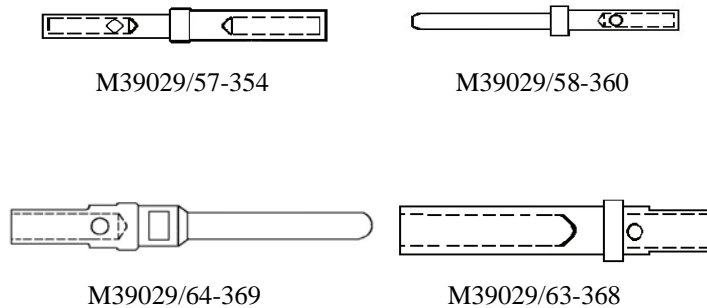

Figure 15. MIL-DTL-24308 Contacts and Tools
a. Select correct crimp tool (Figure 15).
- c. Select correct insertion tool (Figure 15).
a. Select correct removal tool (Figure 15).
- a. Select correct unwired removal tool (Figure 15 and 23).